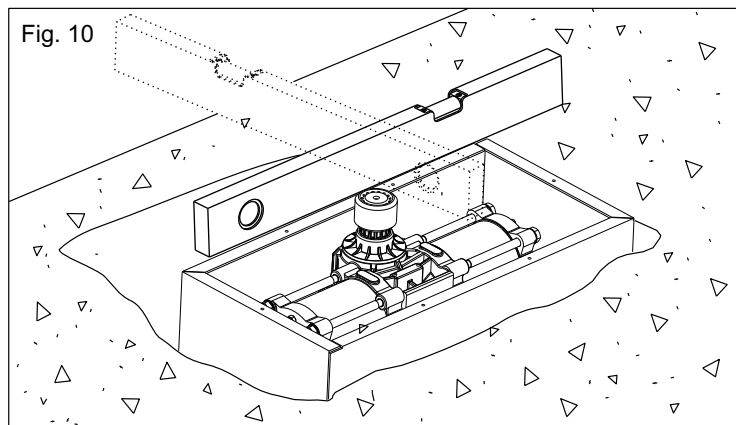
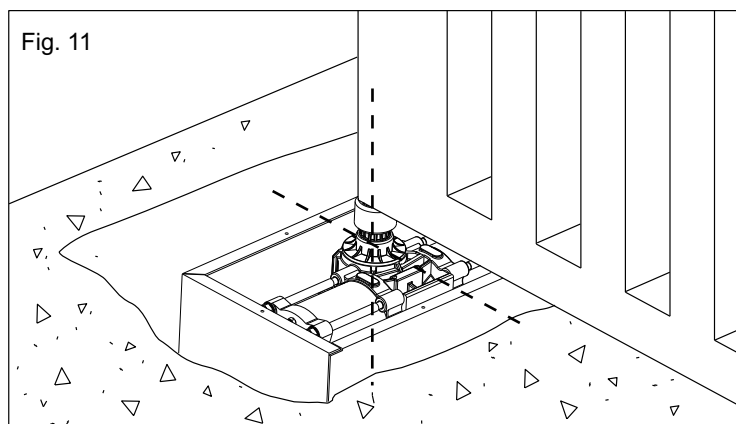

Fig. 10
Fig. 11
2.3. Before concreting the box, use a level to make it perfectly horizontal to the ground (Fig. 10) and perpendicular to the axis of the gate (Fig. 11).